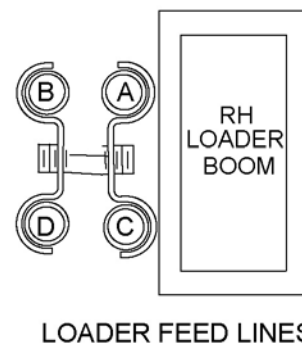

Figure 8. 1020/1027 Loader Supply Hose Connection
1. Attach elbow (2) and male quick coupler (3) to each loader supply hose (1).
2. Connect loader supply hoses to loader steel feedlines following pattern shown in Figure 8.